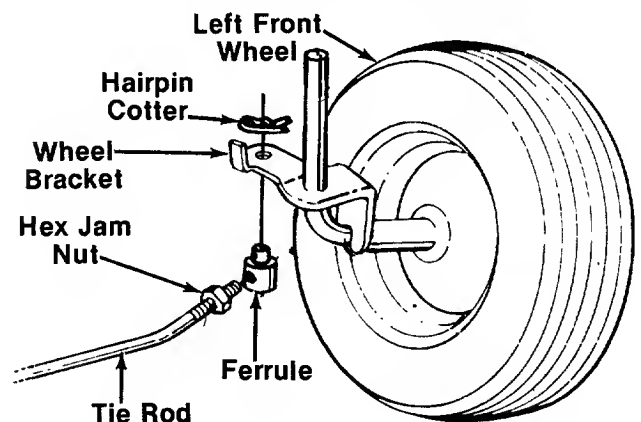

FIGURE 13.
1. Remove the hairpin cotter from ferrule, and drop the tie rod end from the wheel bracket. See figure 13.